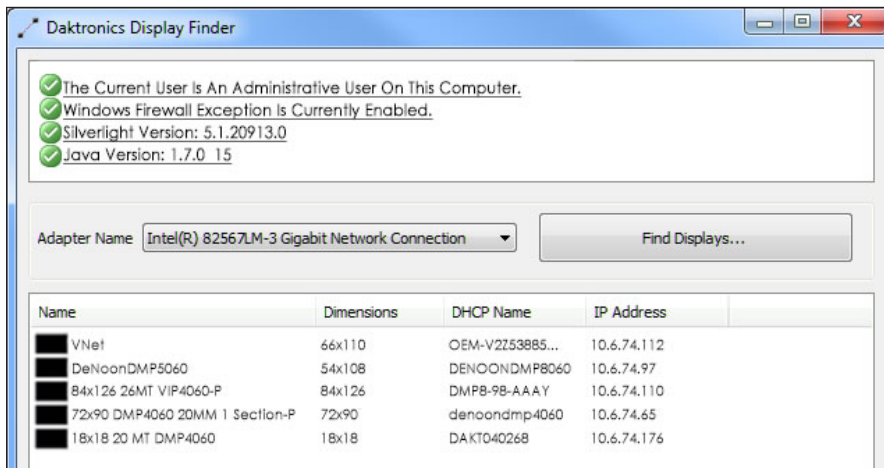

Figure 13: Daktronics DisplayFind Application
- b. Click **Find Displays** to detect displays. Refer to **Figure 13**.